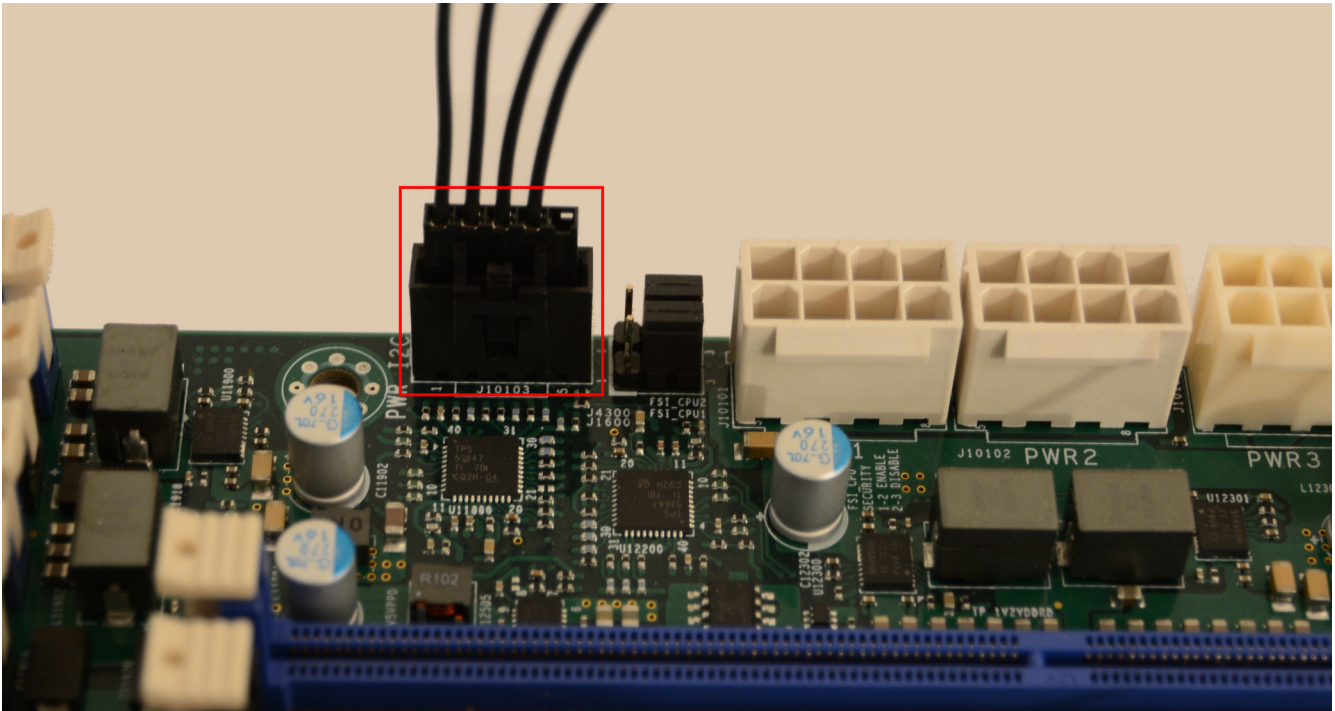

Figure 9: PMBus Cable Installation
- ☐ Plug the PMBus connector into the PMBus header on the Talos II host system as shown in Figure 9.